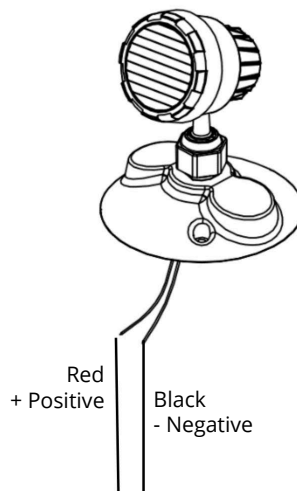
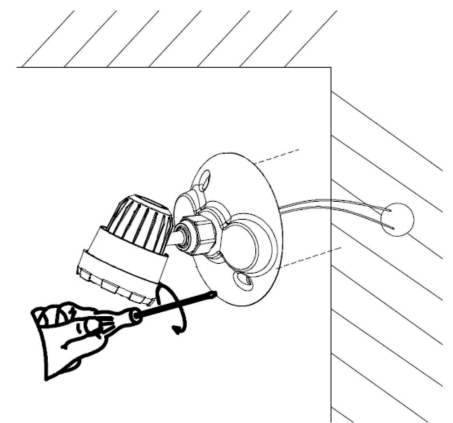

Fig.2
Fig.3
2. Connect the wires to proper power supply and fix it on the wall with screws (see Fig.2 and Fig.3 below)